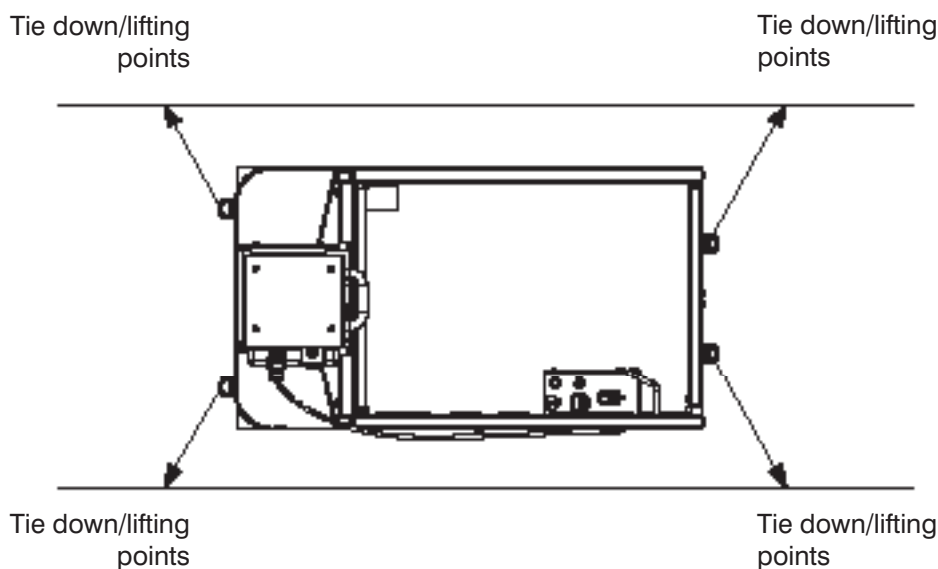

Figure 3-9. Tie Downs/Lifting Points
When transporting, the aerial platform must be secured to the truck or trailer deck. Tie downs are available as illustrated in Figure 3-9.
- The lifting/rigging must be attached to all four lifting points as illustrated in Figure 3-9.